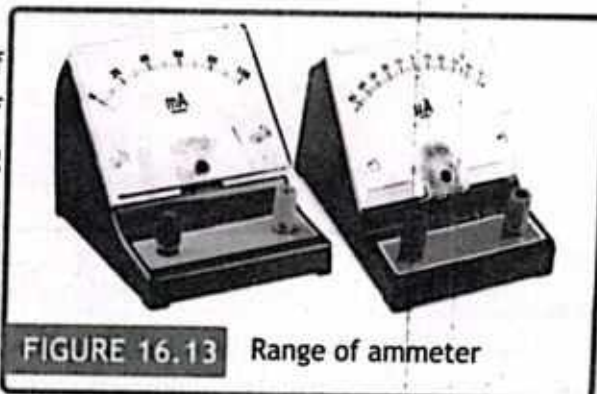

FIGURE 16.13 Range of ammeter
**Range of ammeter:** Generally ammeters of different ranges are used based on the amount of current in the circuit. When you are measuring current in your home appliances, usually an ammeter with ampere values ranging from 1 A to 100 A is used. For small currents we use milli-ammeter (mA) or micro-ammeter ( $\mu\text{A}$ ) as shown in figure 16.13.